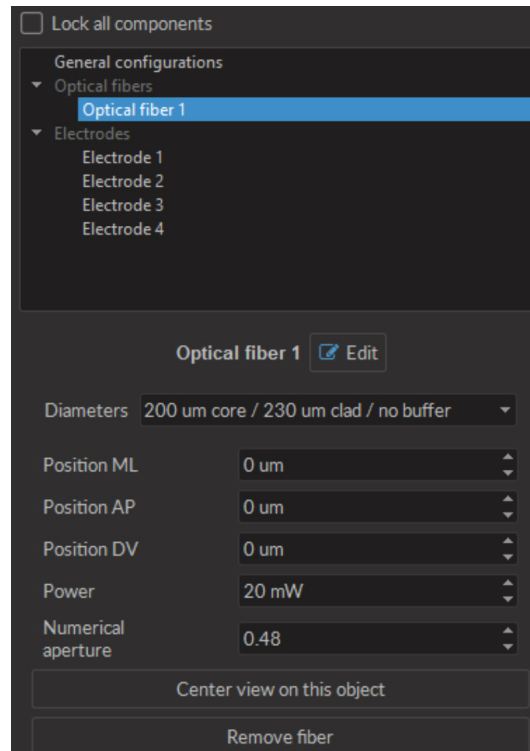

Figure 4.28: Parameter Window, Optical Fiber X
4. The **Optical fibers X** (where X is the fiber number) section (Fig. 4.28) presents all the parameters to define the optical fiber used.